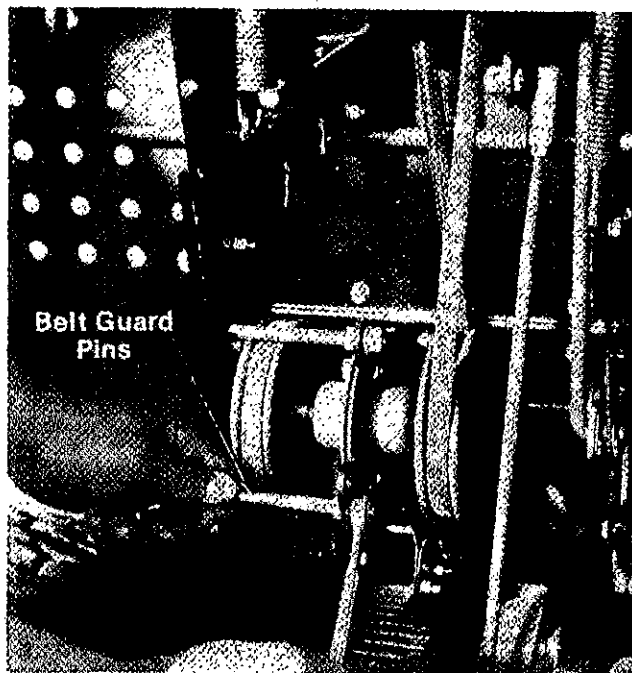

FIGURE 27.
4. Remove the two belt guard pins on the pulley assembly. (See figure 27)